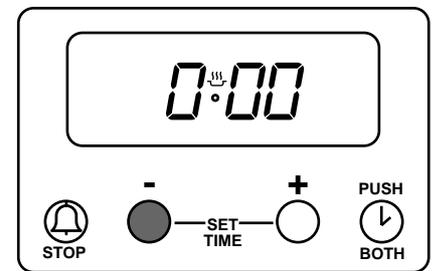

Fig. 6.6
To set, press button (1) and the display will read $0^{\text{u}}:00$, see Fig. 6.6.